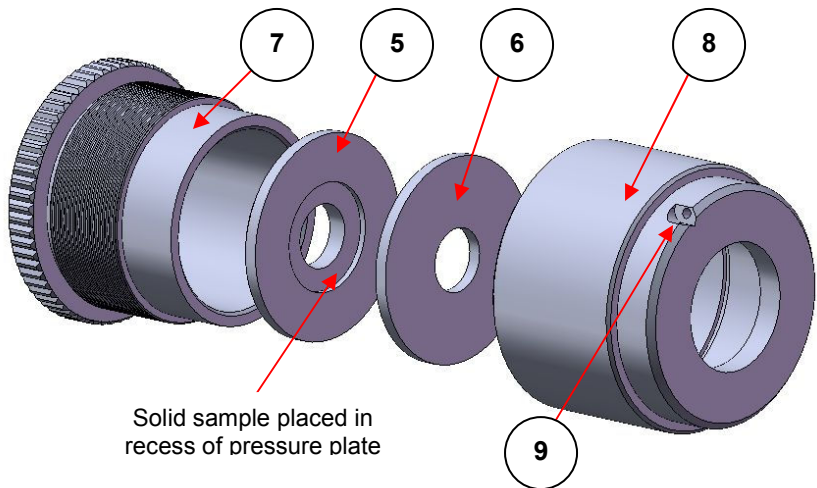
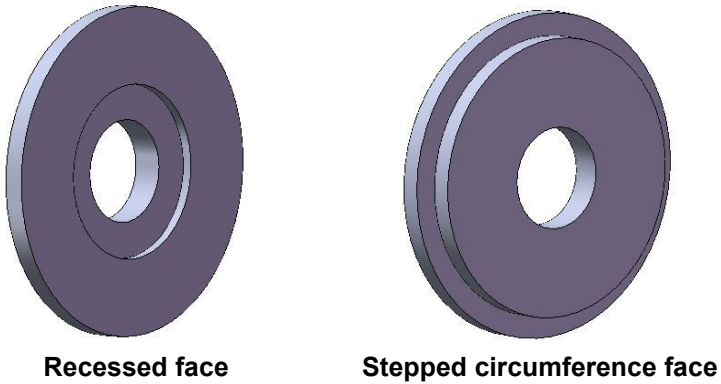

Fig. 4 Exploded view of Solids Cell Holder GS20610
Fig. 5 Location plate (5) faces
There are three matched pairs of different aperture pressure plates (5 and 6) that are used in the assembly of the Solids Cell Holder P/N GS20610. (See Fig. 4). One of the pressure plates (5) is a location plate. An appropriate size sample is placed into the recess of the location plate on the face of the plate as indicated at Fig. 4. The opposite face of the location plate (5) has a stepped circumference, which enables the location plate to fit within the outer threaded body part (7). (See Fig.5).
5. Place the correct aperture location pressure plate (5) into the end of the inner threaded cell body (7) as seen at Fig. 4.
- 5a. For a solid sample with a diameter between 12mm and 17mm and up to 8mm thick, place the sample in the recess of the 10mm diameter location pressure plate (7).
- 5b. For a solid sample with a diameter between 17mm and 22mm and up to 8mm thick, place the sample in the recess of the 15mm diameter location pressure plate (7).
- 5c. For a solid sample with a diameter between 22mm and 30mm and up to 8mm thick, place the sample on the flat face of the 20mm diameter location pressure plate (7).
6. Put the plain flat pressure plate (6) with the same corresponding aperture diameter as the location plate (5) on top of the sample. Ensure that the pressure plates (5 and 6) and the solid sample that is held between them are well aligned.
7. Place the outer threaded cell body (8) over the inner threaded cell body (7) holding the pressure plates (5 and 6) and the solid sample and turn the outer body clockwise until the sample is firmly located in place. Take care not to over-tighten the assembly in case of damaging the sample.
Similarly, when the Solids Cell Holder P/N GS20610 is to be used in the Variable Temperature (VT) Cell P/N GS21525, it is possible to connect an additional “monitoring” thermocouple assembly to the Solids Cell Holder to measure the temperature of the solid sample more precisely than the temperature value shown for the VT Cell from its own temperature controlling thermocouple. The tip of the monitoring thermocouple is securely fitted into the Solids Cell Holder via the thermocouple well hole (9) – see Fig. 4. Explanation of how to connect the monitoring thermocouple is found from the instruction manual for the VT Cell P/N GS21525.